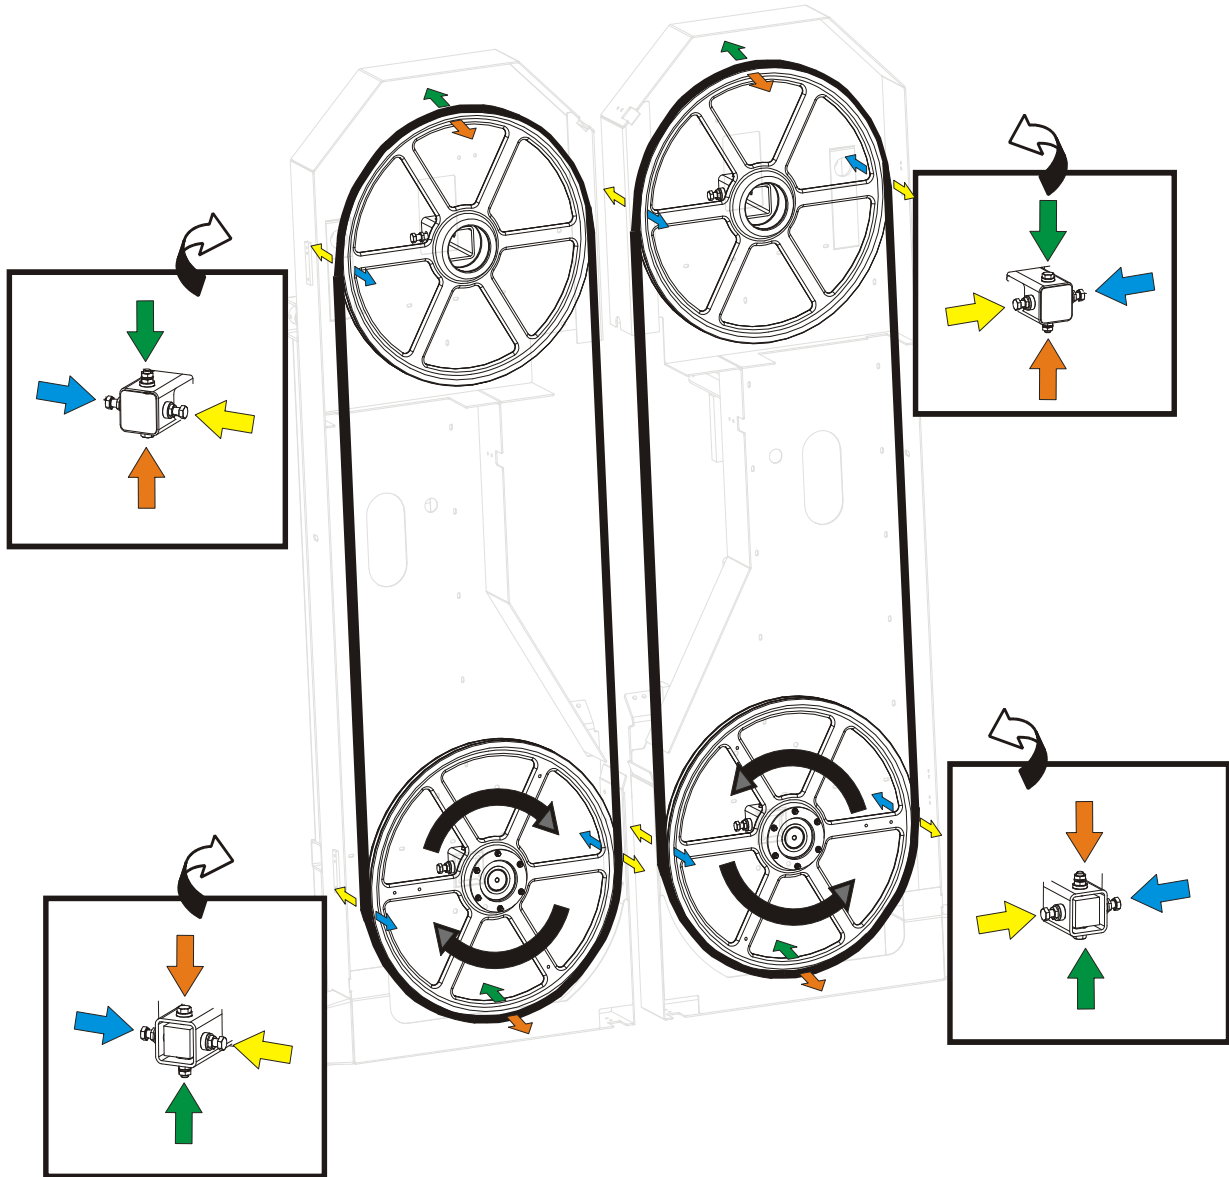

FIG. 5-25
**See Figure 5-25.** Arrows show which bolts should be used to tilt the wheels in required